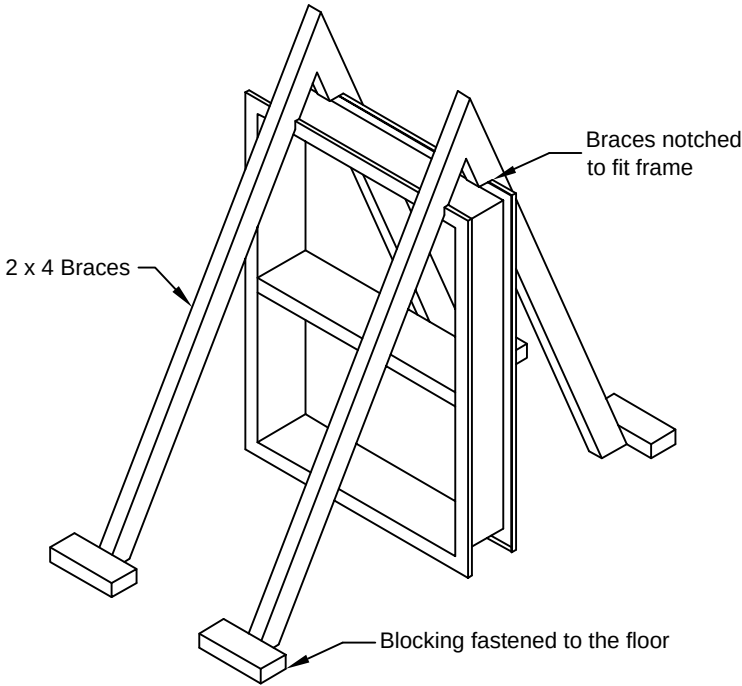

FIGURE 1
- 5. Brace The frame to the structure or to the floor as shown in Figure 1. DO NOT BRACE IN THE DIRECTION OF THE INTENDED WALL. Plumb and square jambs.